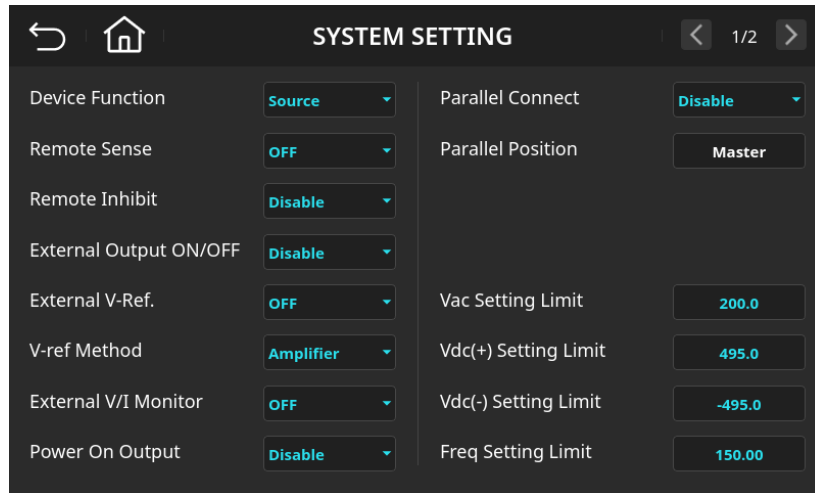

Figure 6-12 System Function Settings Page (Vac Setting Limit = 200.0)
2. Enter 2, 0, 0, then press the Enter key **Enter**; the value will update to "200.0", as shown in Figure 6-12.